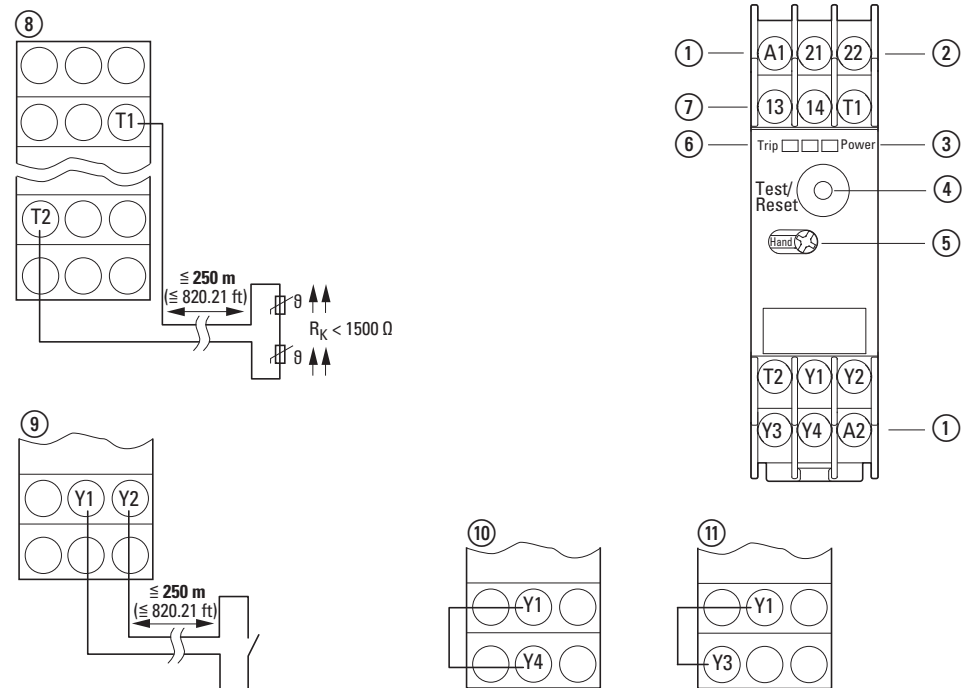

Figure 6: Connection terminals EMT6...
The short-circuit monitoring of the EMT6-DBK device can be disabled by means of a wire jumper between terminals Y1-Y3 (→ Figure 6, page 49).
The EMT6, EMT62, EMT6-K and EMT6(230V) devices have a setting fixed to "Automatic reset" mode. The automatic reset can also be selected with the EMT6-DB, EMT6-DB(230V), EMT6-KDB and EMT6-DBK. The selector switch (→ Figure 6, page 49, legend ⑤) is set to AUTO for this purpose.
The manual reset can also be selected with the EMT6-DB, EMT62-DB, EMT6-DB(230V), EMT6-KDB and EMT6-DBK devices. The selector switch (→ Figure 6, page 49, legend ⑤) is set to “Manual” for this purpose.
- ➔ Zero-voltage protection can be disabled by bridging terminals Y1 and Y4 (➔ Figure 6, page 49).
- ➔ Short-circuit protection can be disabled by bridging terminals Y1 and Y3 (➔ Figure 6, page 49).